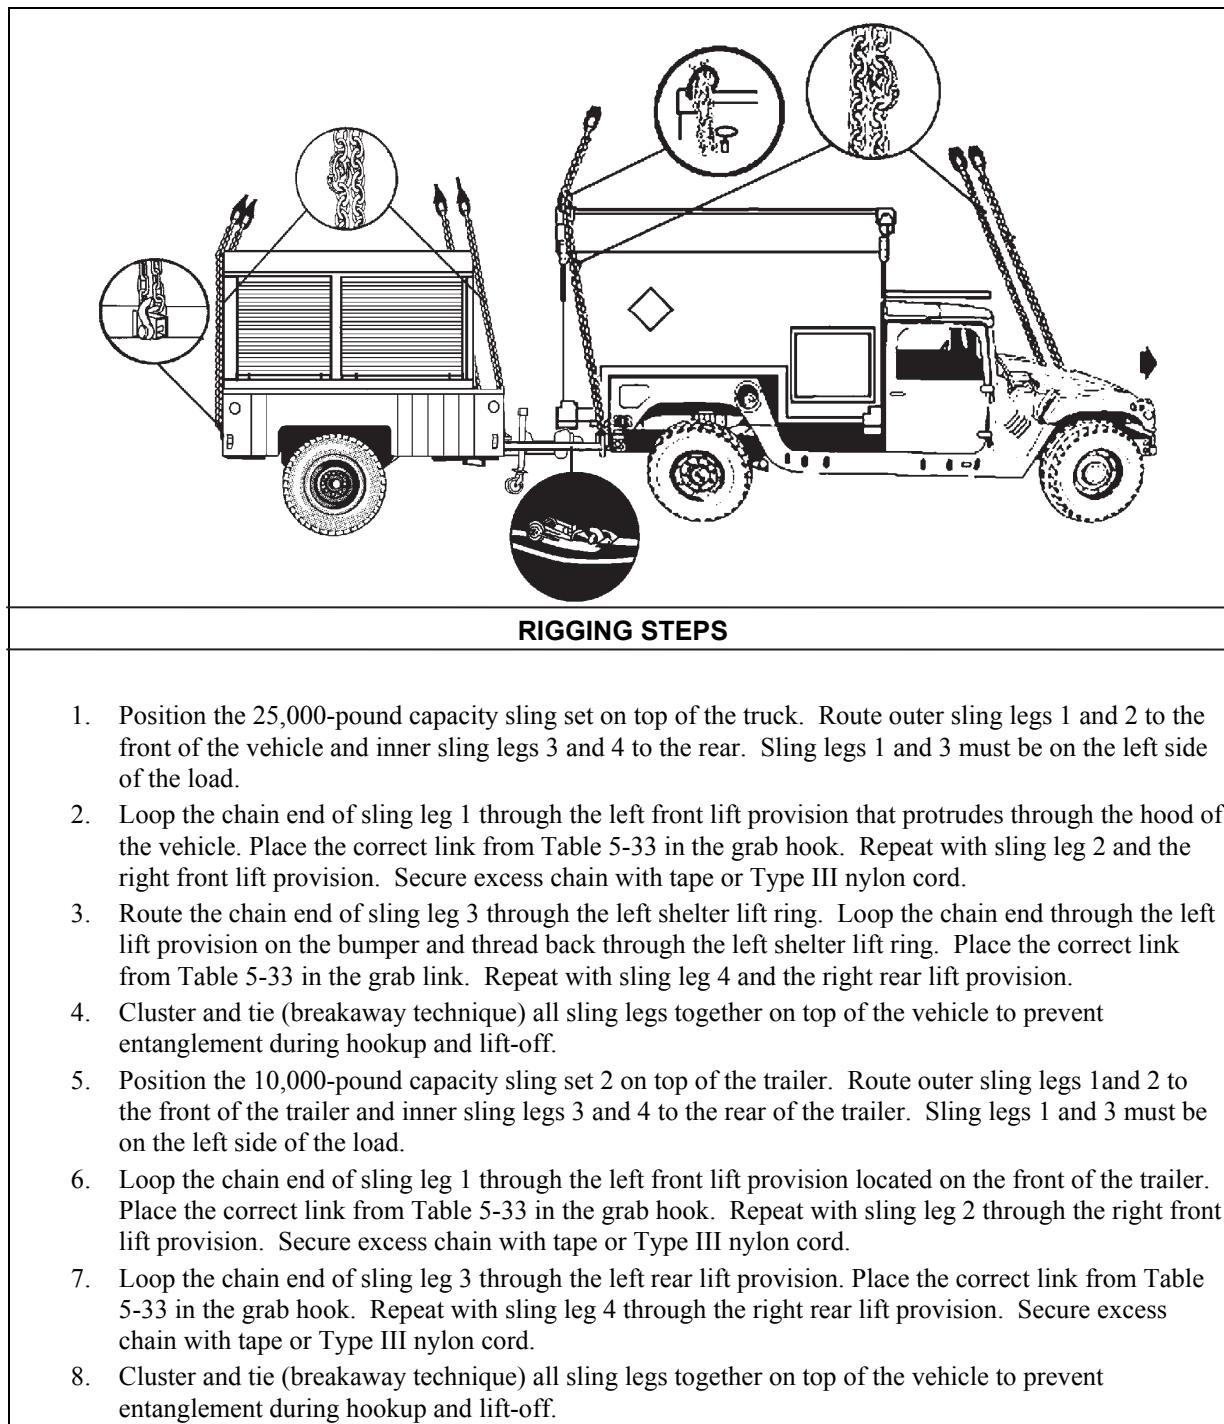

Figure 5-33. M1113 Truck, 1 1/4-Ton Petroleum Quality Analysis System Shelter and PQAS Trailer
- **Rigging.** Rig the load according to the steps in Figure 5-33.